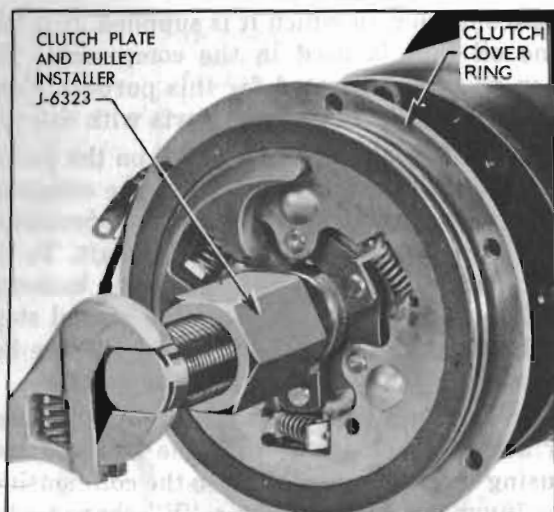

Figure 11-30—Installing Clutch Plates
14. The clutch plate assembly is now ready to be pressed on the shaft, using tool J-6323. See figure 11-30.